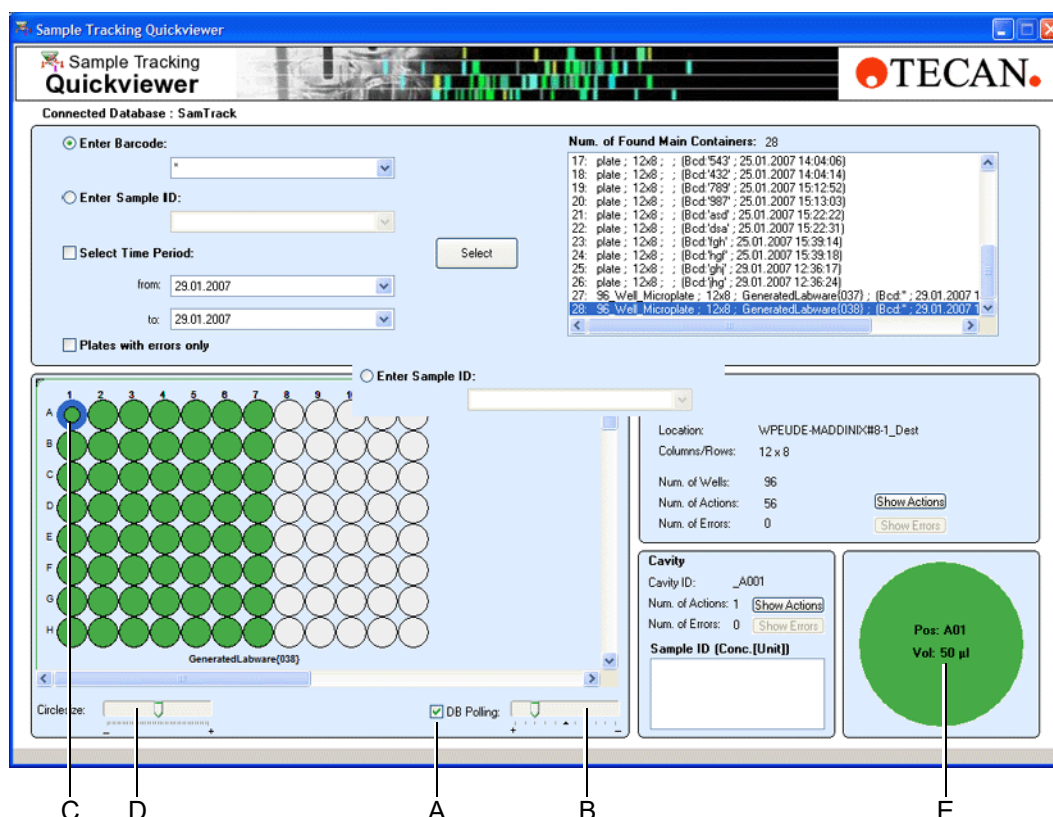
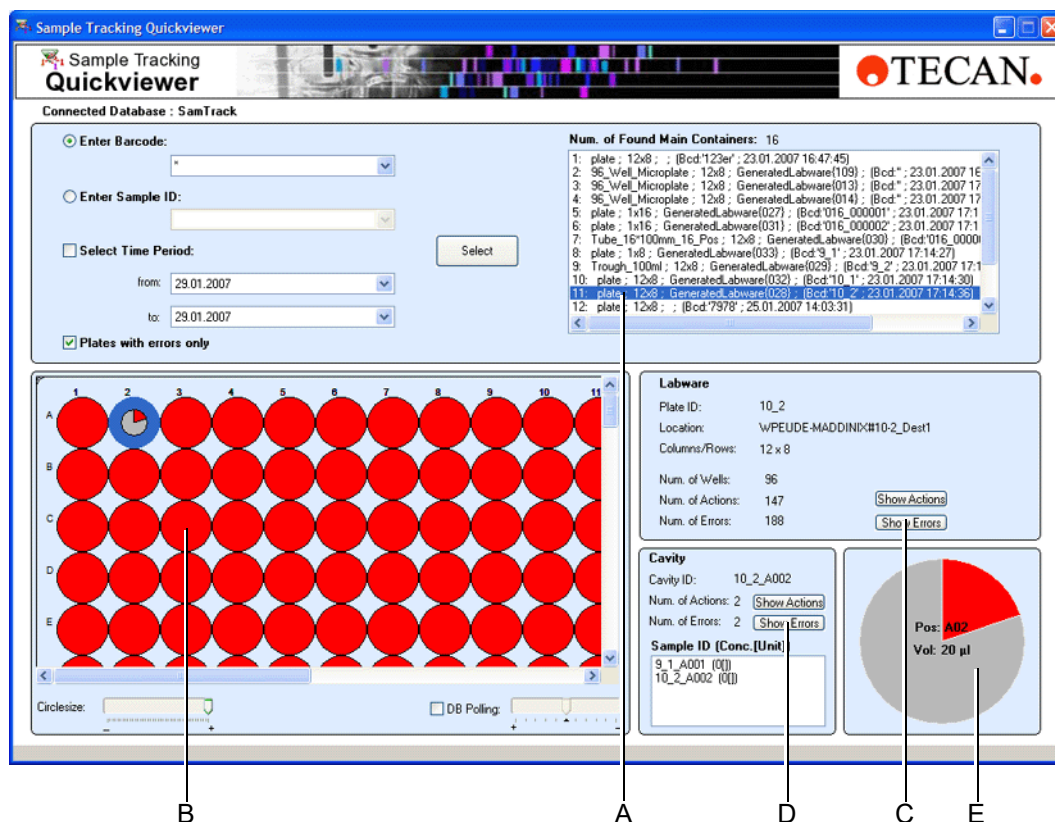

Fig. 8-11 DB Polling
Fig. 8-12 Container with error
- 3 To view labware errors taken place on the selected plate click **Show Errors** (C) Fig. 8-12, 8-11.
Fig. 8-12, Fig. 8-11.